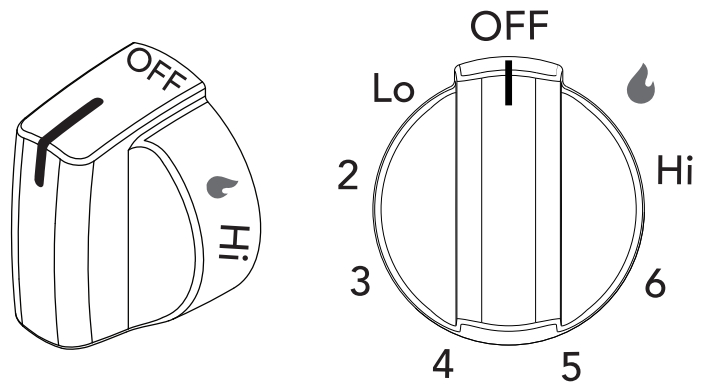

Figure 5: Surface control knob
2. Push the burner's surface control knob in and turn counterclockwise out of the OFF position (Figure 5).